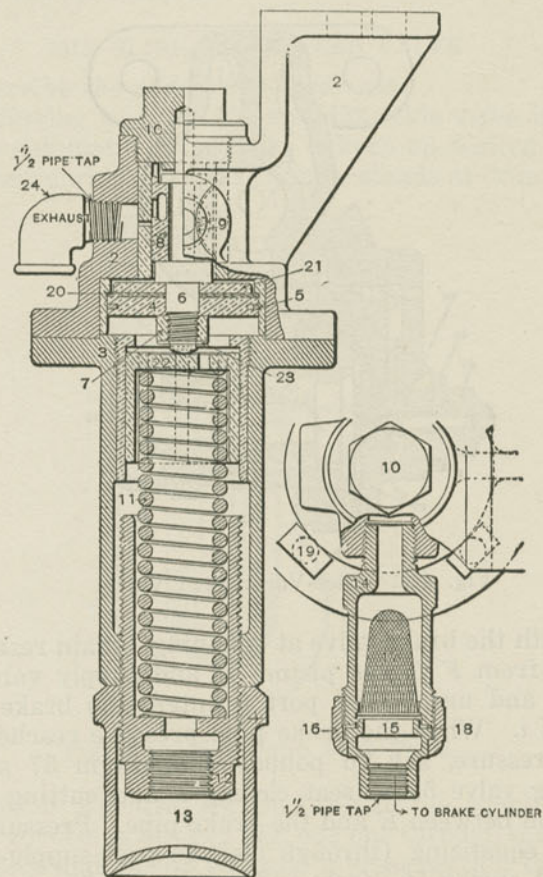

Fig. 453. Automatic Reducing Valve.
*A.* It is shown in vertical cross section in Fig. 453 and Figs. 454, 455 and 456 are vertical cross sections of the
The triangular port *b* leads to the chamber *d*; port *a* to the atmosphere, through the exhaust opening *Y* (Fig. 453). Referring to the release position (Fig. 454), the port *b* of slide 8 does not register with port *a* of its seat. On brake application the pressure is held in the brake cylinder and subsequently released in the usual way unless it can overcome the tension of spring 11 and force down piston 4.